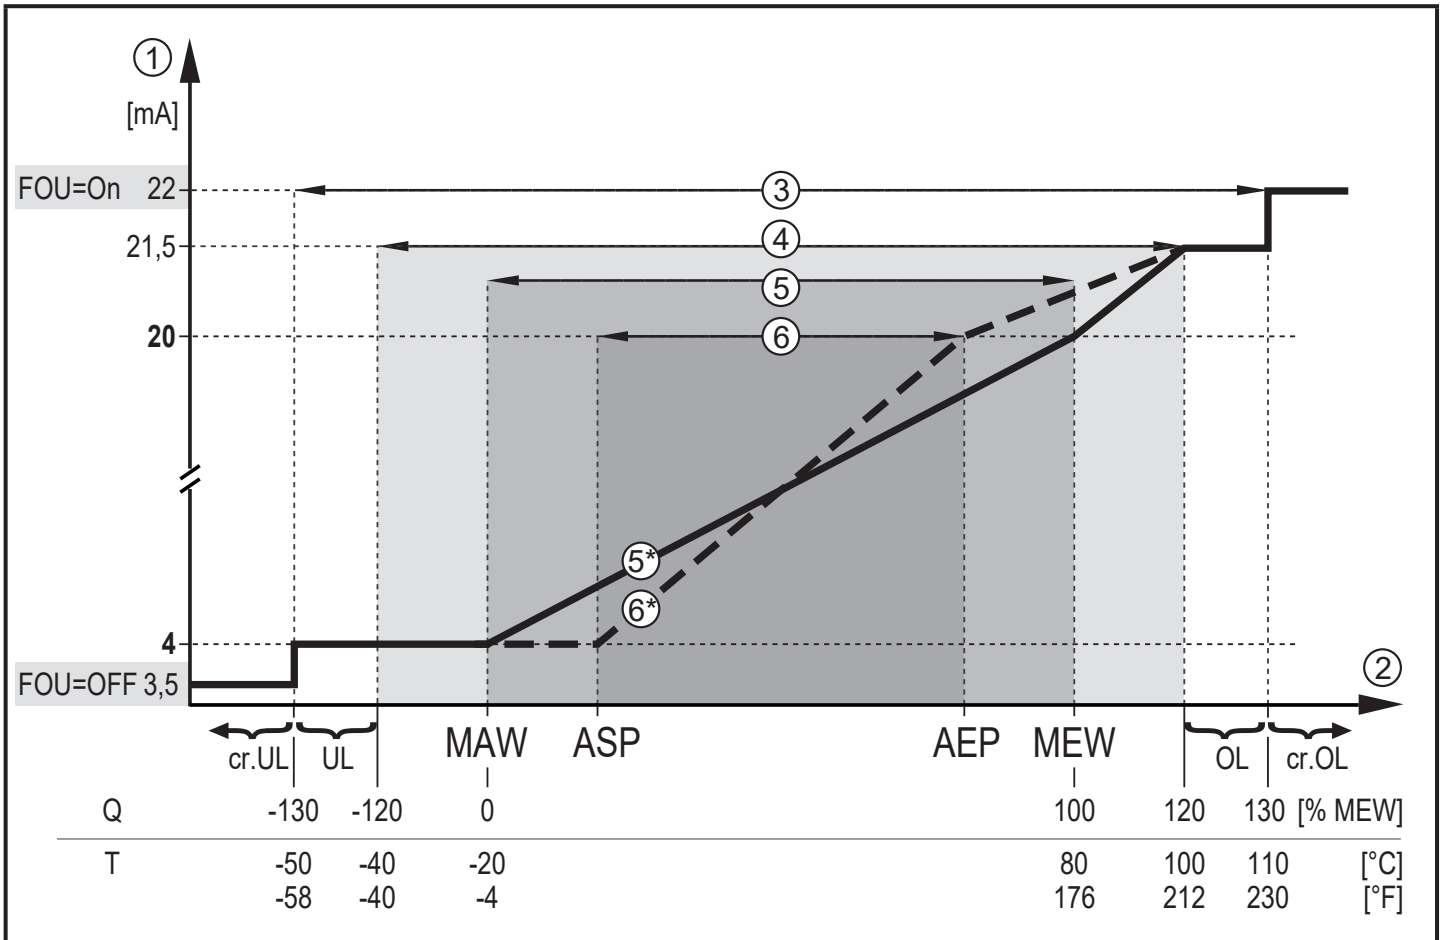

Figure 1: Characteristics of the analogue output according to the standard IEC 60947-5-7.
- If the measured value is outside the measuring range or in the event of an internal error, the current signals indicated in Figure 1 are provided.
► Install the unit according to figure 1 or 3.